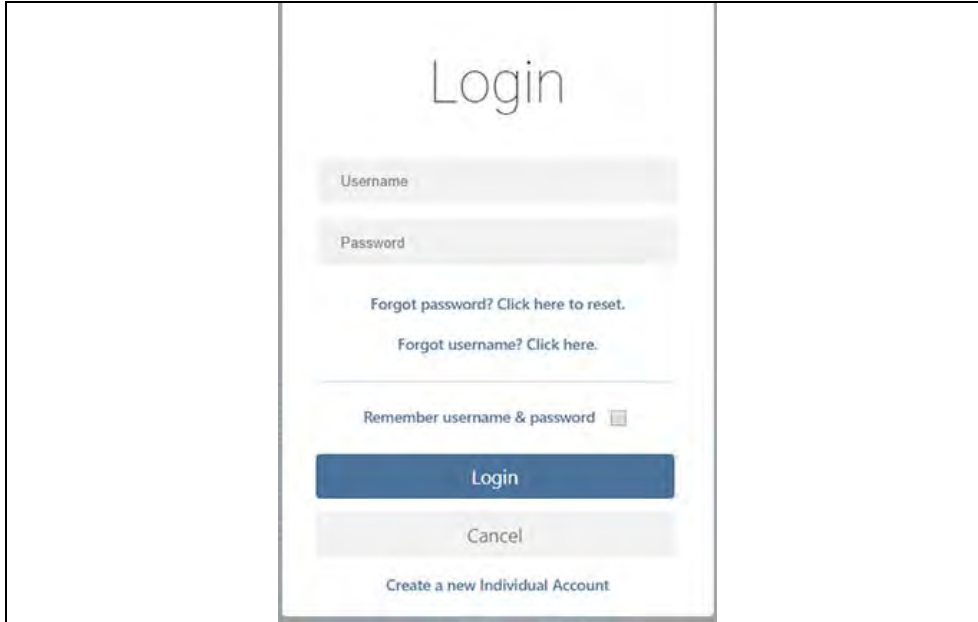

Figure 14-4
3. Log in using your **Username** and **Password** (Figure 14-4).